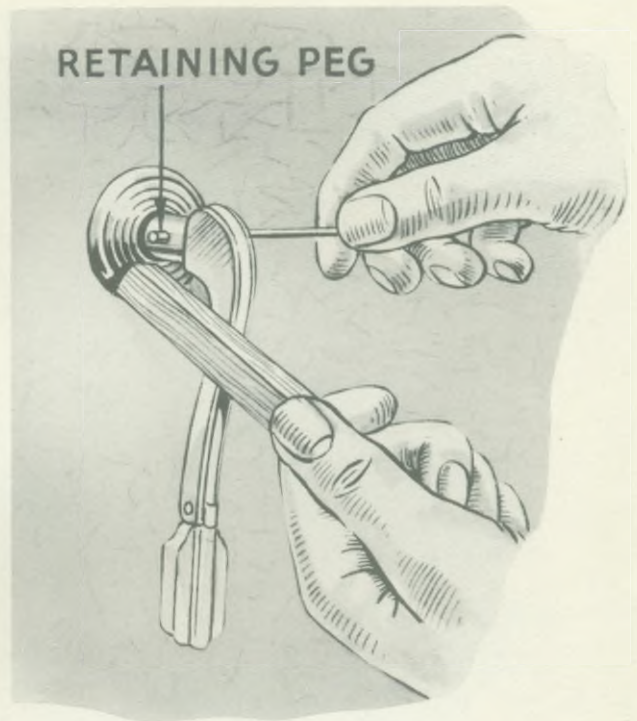

Fig. 8. Door handle escutcheon plate being held depressed whilst the retaining peg is being pushed out
1. Press spring-loaded escutcheons of inside lock handle and door glass regulator handle inwards as shown in Fig. 8, remove retaining pegs and draw off handles.